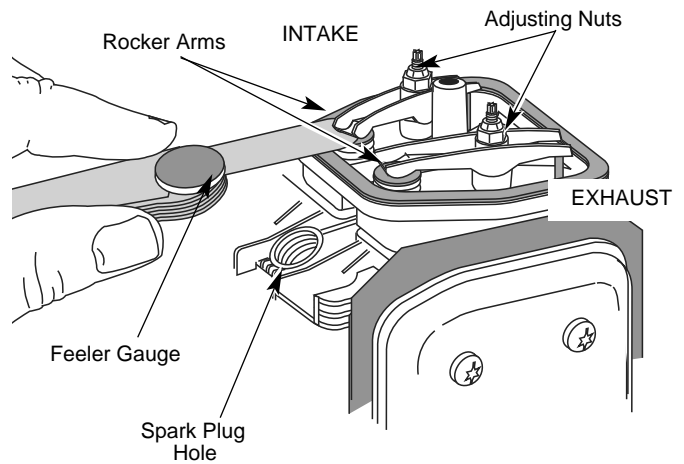

Fig. 54
¥ The piston is at the top of its travel while looking in the spark plug hole (Fig. 54)
7. Slide the feeler gauge between the rocker arm and the valve return spring. Measure the clearance between the valve stem and rocker arm (Fig. 54). Measure both the intake and exhaust valves.
The recommended clearance for both intake and exhaust is .003 in. to .006 in. (.076 mm to .152 mm). Use a standard automotive .005 in. (.127 mm) feeler gauge. The feeler gauge should slide between the rocker arm and valve stem with a slight amount of resistance, without binding. See Figures 54 and 55.
- a. Turn the adjusting nut using a 5/16 inch (8 mm) wrench or nut driver (Fig. 54).